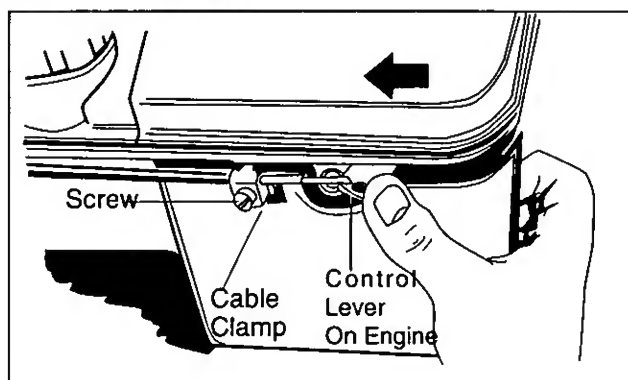

Figure 8
- Remove the screw shown in Figure 8. Remove the cable clamp from the cable.